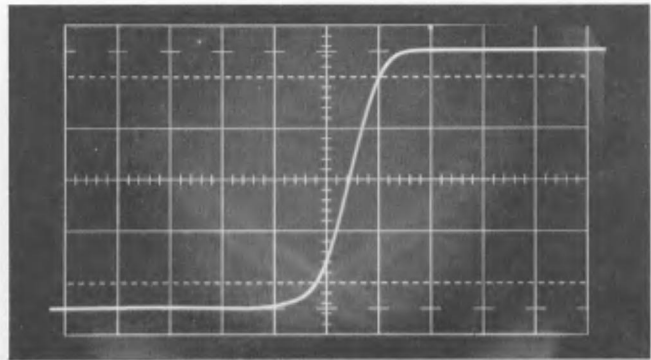

Fig. 4-19. Crt display for risetime measurement.
- j. Measure the risetime between the 10% and 90% points on the waveform (see Fig. 4-19).